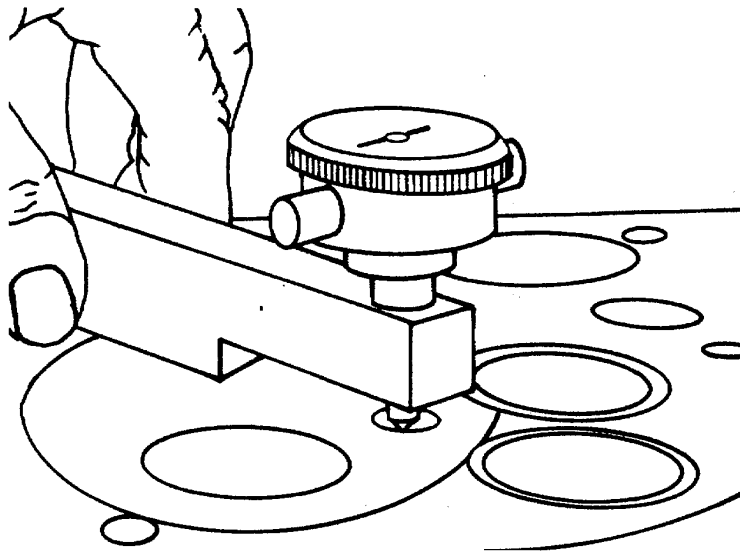

FIGURE 4-16. Using Gauge Block.
- 2 Use the gauge block to measure the protrusion of the injector tip to find the amount to cut from the sleeve (Figure 4-16).
- (i) Use the gauge block to measure the protrusion of the injector tip (Figure 4-16)